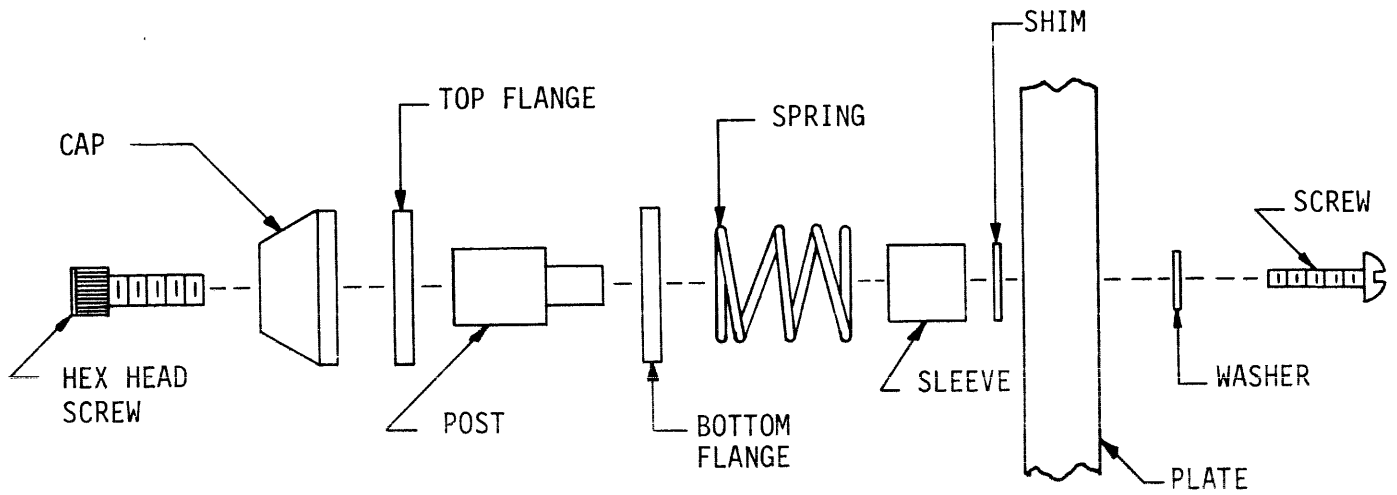

Figure 9-6, ROLLERS AND GUIDES
9.9.1 ARM ROLLERS. To remove or replace a binding or noisy arm roller perform these steps while referring to figure 9-6.
9.9.2 STATIONARY ROLLERS. If a stationary roller, fails to rotate freely or generates excessive noise one of the two bearing assemblies in the roller should be replaced. Refer to figure 9-6 with regard to these directions.
To replace the entire tape guide assembly follow these step-by-step directions, referring to figure 9-6,
- 2) Replace components in the proper sequence shown in figure 9-6. Tighten screw.